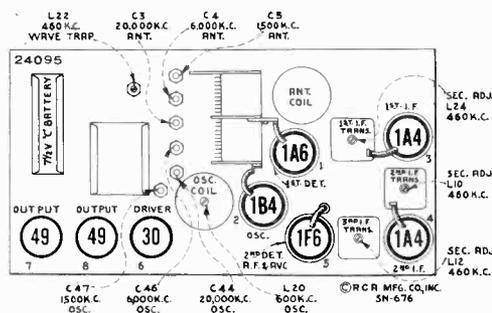

Figure 3—Radiotron, Coil, and Trimmer Locations
- Adjust the two magnetite core screws L12 and L11 (see figures 3 and 7) of the third i-f transformer (one on top and one on bottom) to produce maximum vertical deflection of the oscillographic image. This adjustment places the transformer in exact resonance with the 460-kc signal.